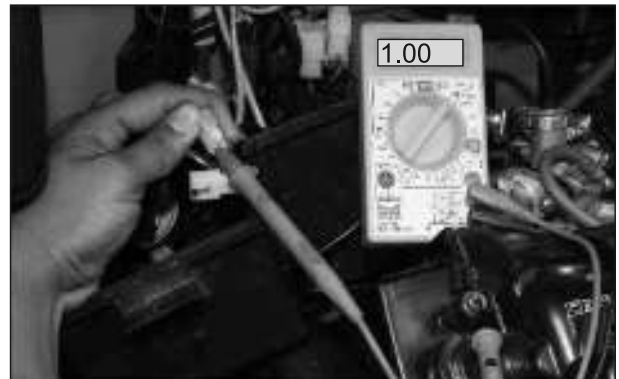

Fig. 6.32
- Connect the '+ve' probe of the multimeter to the White with Grey tracer (WGr) wire from the magneto assembly and '-ve' probe of the multimeter to the Body earth (Body earth). (Fig. 6.32)